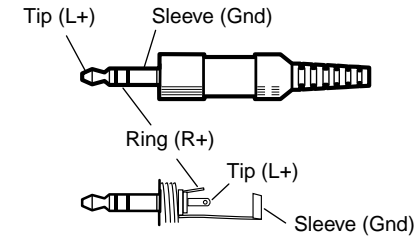

Figure 2-14 — Audio input connector wiring
- ③ **Audio input (DVI 201 A D Tx [Decora] only)** — Connect an unbalanced stereo audio source to this 3.5 mm mini stereo jack for unbalanced audio input. Figure 2-14 shows how to wire the audio plug.
- ⑬ **Audio output connector (DVI 201 A D Tx [Decora] only)** — Connect a stereo audio device to this 3.5 mm mini stereo jack to receive the unbalanced audio output. Figure 2-14 on page 2-17 shows how to wire the audio plug.